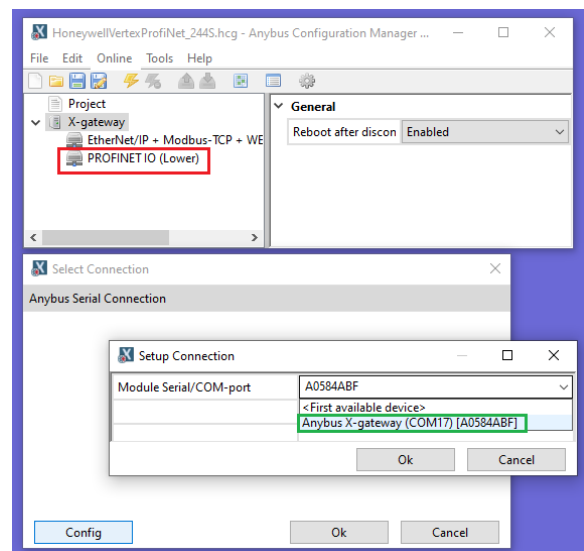

Figure 4
4. Select the current module as shown in green in Figure 4.